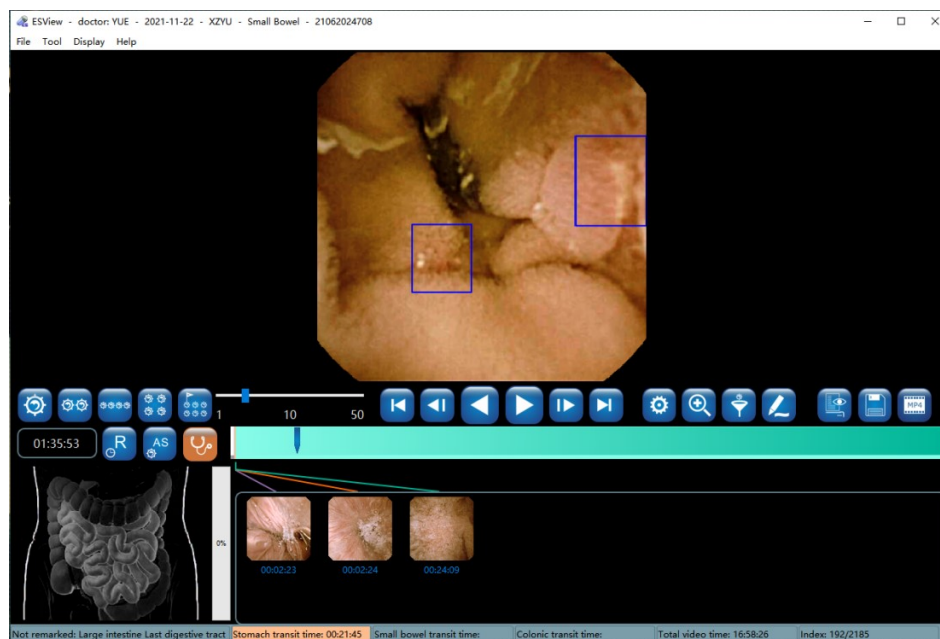
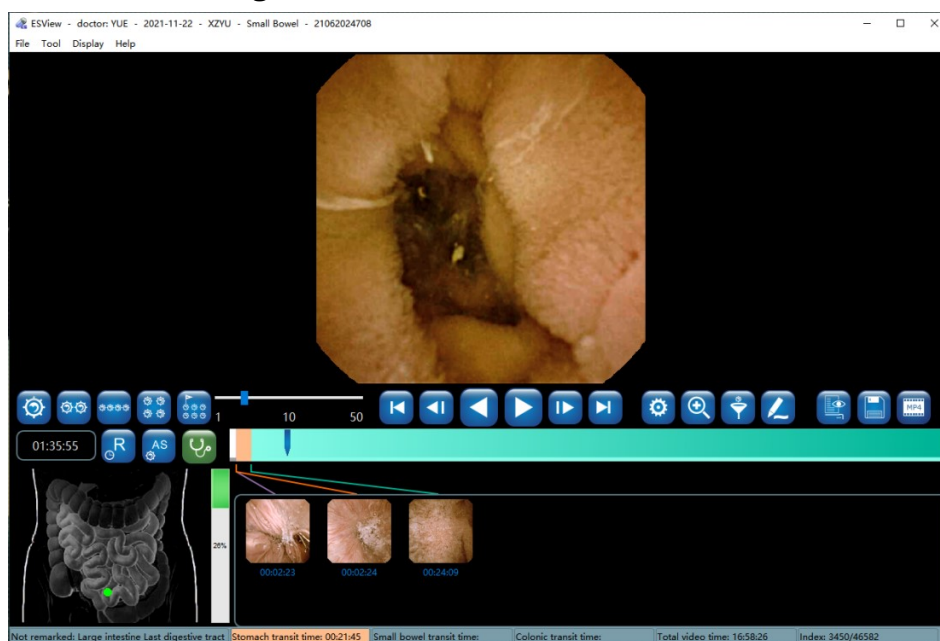

Figure 4-47: NaviCam ProScan Mode
Figure 4-48: NaviCam ProScan Normal Images Mode
- When the NaviCam ProScan icon is blue, the default is Total Images Mode, click  to switch to NaviCam ProScan Mode, the button color changes to orange, click  to switch to Normal Images Mode, the color changes to green, as shown in Figure 4-47 and Figure 4-48, click  to switch back to Total Images Mode.